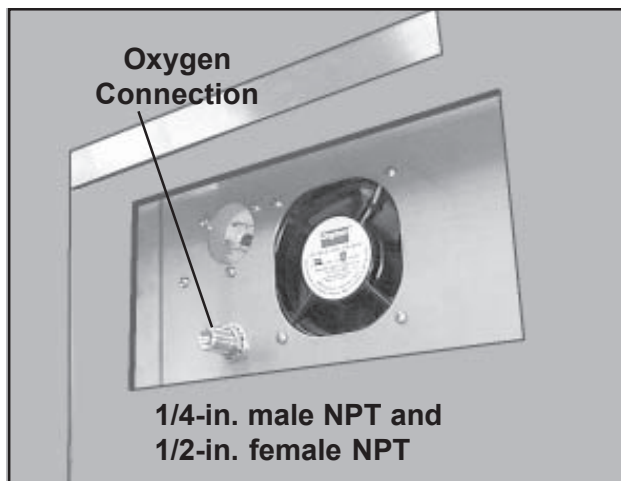

Figure 48. Oxygen Hook-up Connection
4. Hook up the oxygen supply to the oxygen port at the rear of the unit (Figure 48).